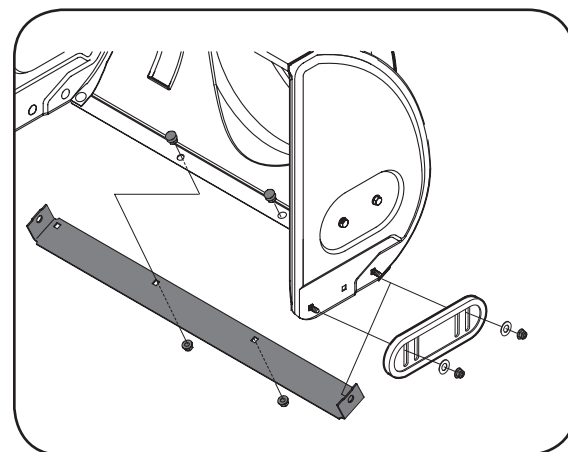

Figure 6-3
2. Reassemble new skid shoes with the hardware previously removed. Refer to Figure 6-3.